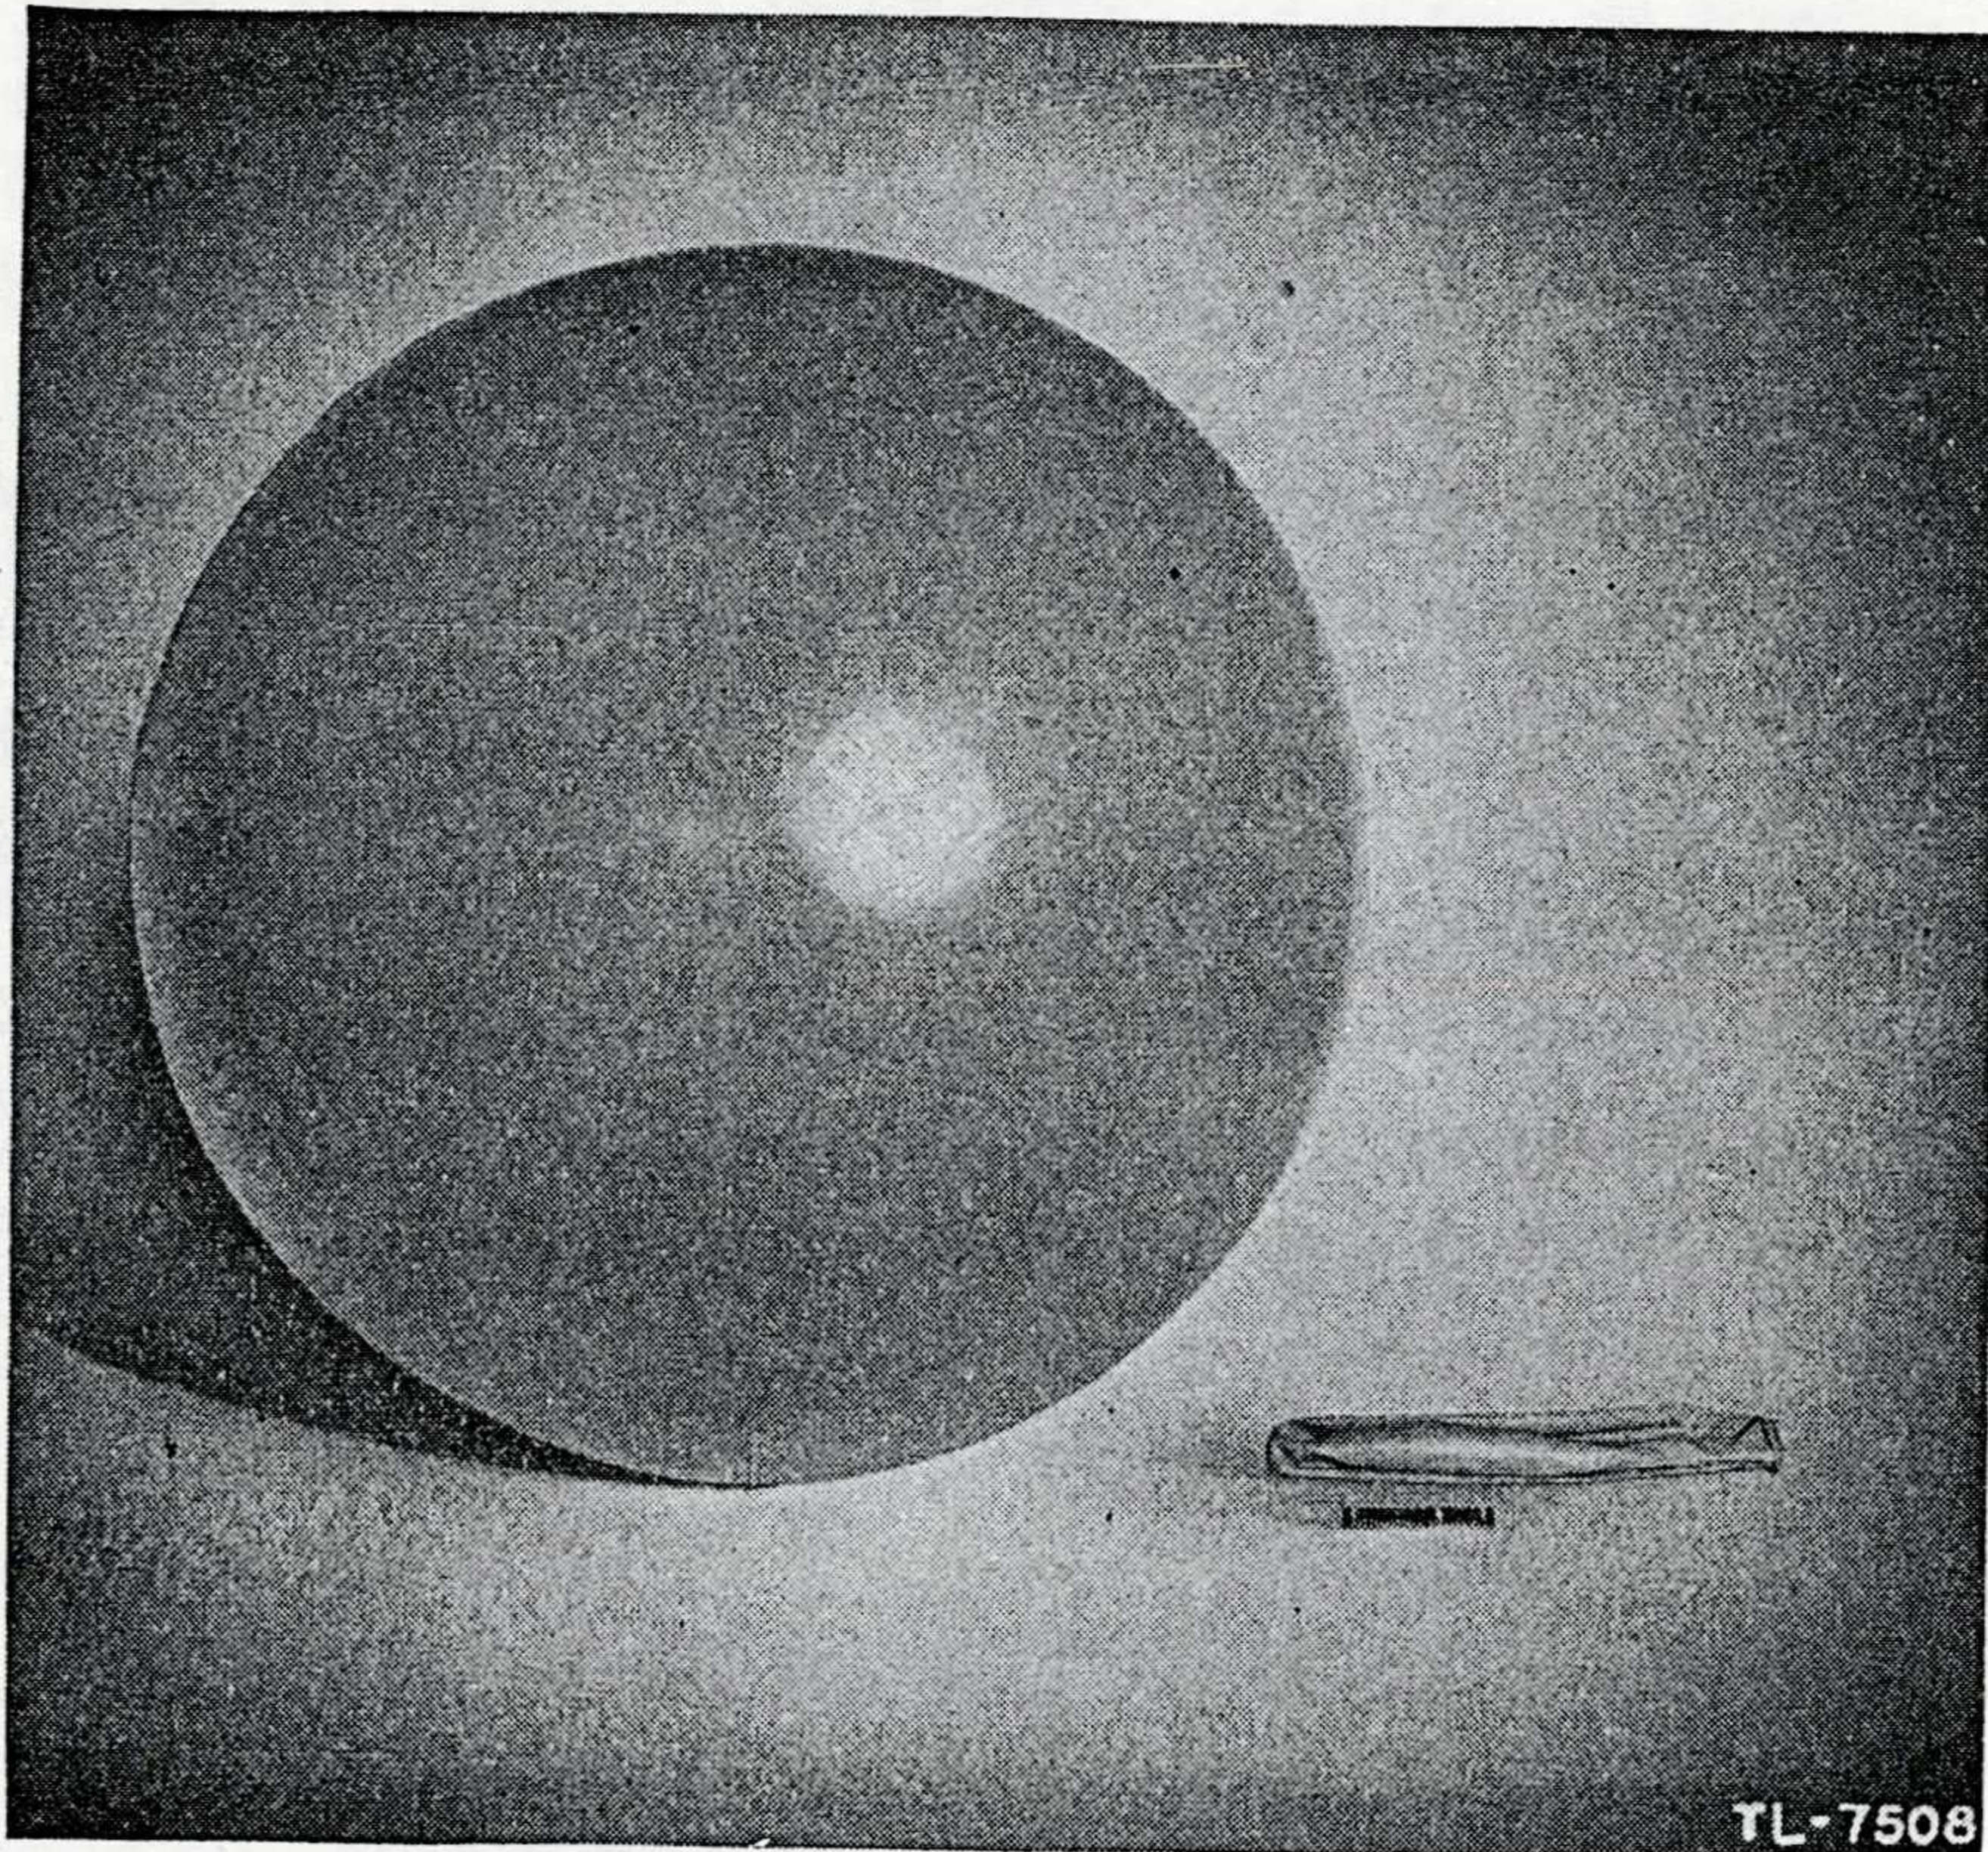

FIGURE 1. Thirty-gram pilot balloon, inflated and deflated.
(1) The smaller pilot balloons (fig. 1) are approximately 6 inches in diameter before inflation and weigh about 30 grams (1.06 ounces). The balloon neck is about 2½ inches long and 1½ inches in diameter. The balloon is of one-piece seamless construction. Thirty-gram pilot balloons are inflated to ascend at a constant rate of about 200 yards per minute (par. 16b) and are used for low-level observation (up to 30,000 feet). They are supplied in the following colors: white or uncolored, a dark color (black, dark blue, or purple), red, orange, and yellow to contrast with the condition of the sky at the time of observation (par. 4).
(2) The larger pilot balloons are approximately 16 inches in diameter before inflation and weigh about 100 grams (3.53 ounces). The balloon neck is made of relatively thick rubber, is about 2½ inches long, and is 7/16 inch to 1½ inches in diameter. Pilot balloons